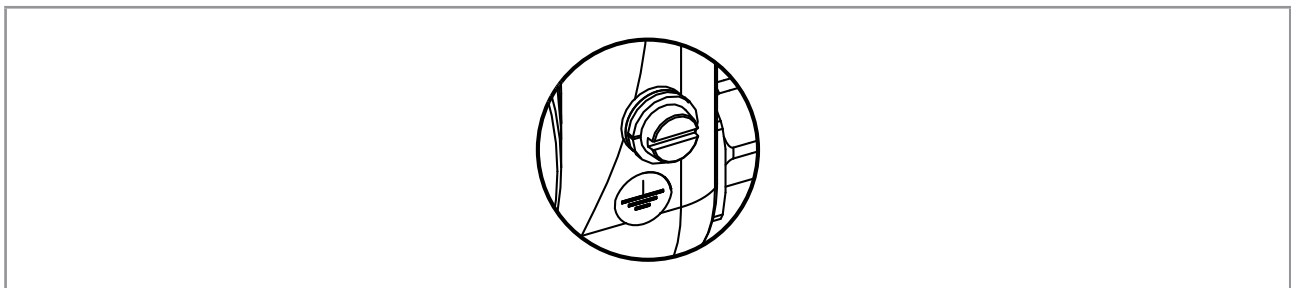

Figure 39: Functional earth screw on the outer surface of the device
- Connect the functional earth conductor to the functional earth screw, see Figure 39.